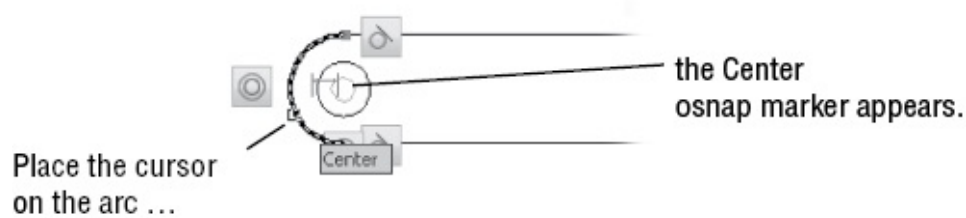

FIGURE 16.11 Use the Center osnap to select the center of the arc.
3. Place the cursor on the arc on the left side of the drawing so that the Center osnap marker appears for the arc (see Figure 16.11) and click to select the center. Notice that the arc is highlighted as you select the center.